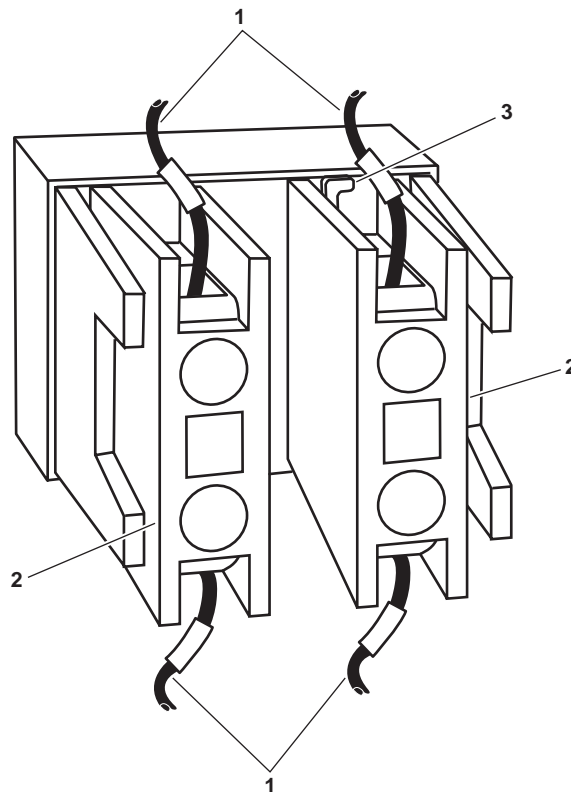
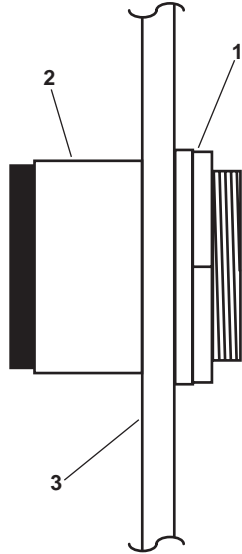
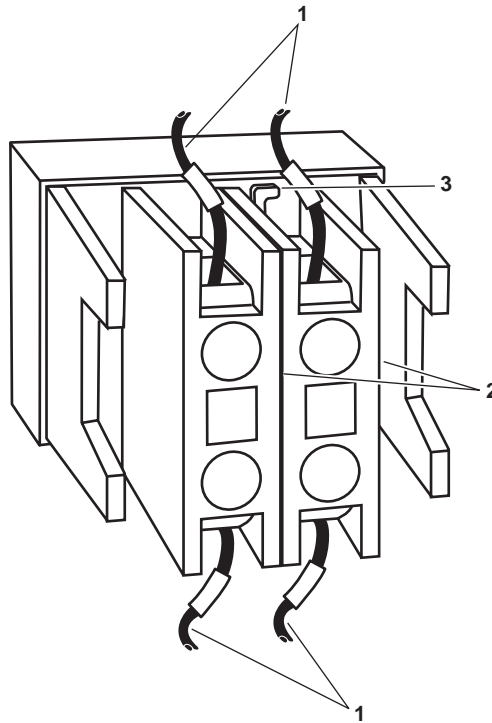
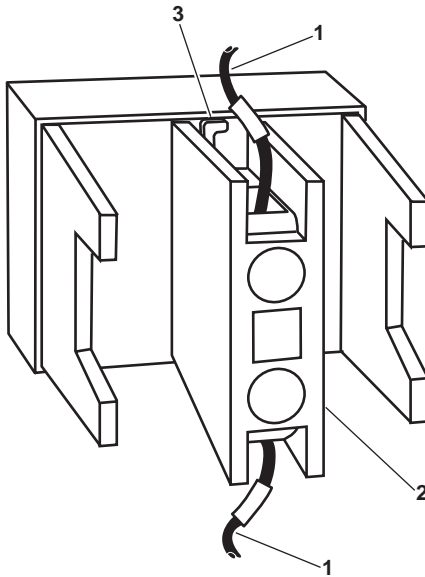

Figure 10. Rotary Switch
Figure 11. Indicator/Operator (Typical)
Figure 12. Indicating Pushbutton Light
Figure 13. Pilot Light or Pushbutton
4. Label and disconnect the wiring (figure 10, item 1) from the contactor (figure 10, item 2).
5. Rotate the locking tab (figure 10, item 3) to the right and remove the contactor (figure 10, item 2) from the enclosure.
6. Unscrew the retaining nut (figure 11, item 1) from the indicator/operator housing (figure 11, item 2) and remove it from the panel (figure 11, item 3).
1. Install the indicator/operator housing (figure 11, item 2) in the panel (figure 11, item 3) and secure it with the retaining nut (figure 11, item 1).
2. Install the contactor (figure 10, item 2) on the rear of the indicator/operator housing (figure 11, item 2) by pressing it until it snaps into place.
3. Install the wiring (figure 10, item 1) using the labels from step 2 of Removal as a guide. Remove the labels.
4. Label and disconnect the wiring (figure 12, item 1) from the contactor (figure 12, item 2).
5. Rotate the locking tab (figure 12, item 3) to the right and remove the contactor (figure 12 item 2) from the enclosure.
2. Install the contactor (figure 12, item 2) on the rear of the indicator/operator housing (figure 11, item 2) by pressing it until it snaps into place.
3. Install the wiring (figure 12, item 1) using the labels from step 2 of Removal as a guide. Remove the labels.
4. Label and disconnect the wiring (figure 13, item 1) from the contactor (figure 13, item 2).
5. Rotate the locking tab (figure 13, item 3) to the right and remove the contactor (figure 13, item 2) from the enclosure.
6. Unscrew the retaining nut (figure 11, item 1) from the indicator/operator housing (figure 11, item 2), and remove it from the panel (figure 11, item 3).
2. Install the contactor (figure 13, item 2) on the rear of the indicator/operator housing (figure 11, item 2) by pressing it until it snaps into place.
3. Install the wiring (figure 13, item 1) using the labels from step 2 of Removal as a guide. Remove the labels.